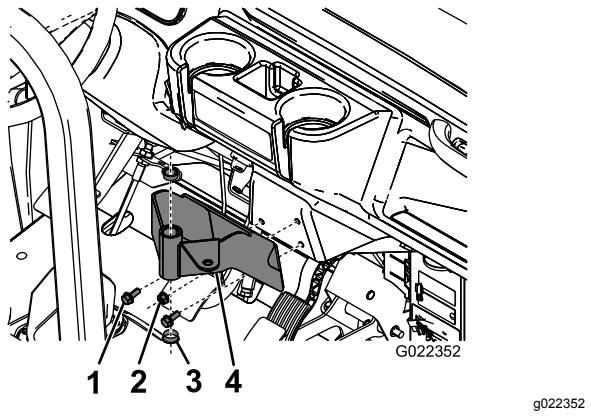

Figure 6
1. Install the console mounting bracket to the Workman dashboard (or adapter plate) using 3 bolts and 3 flange nuts as shown in Figure 6.
2. Insert the 2 plastic bushings into the mounting bracket (Figure 6).